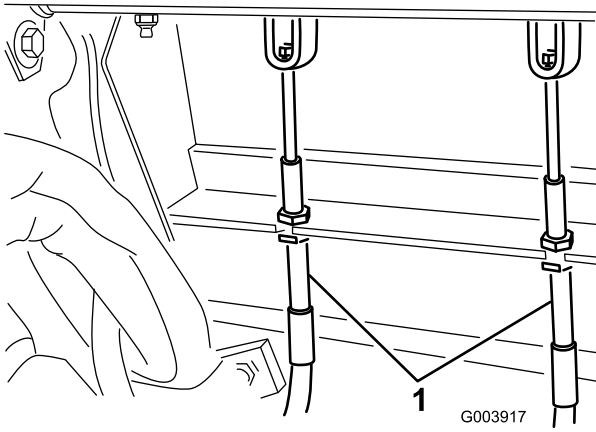

Figure 68
2. To reduce free travel of the brake pedals, tighten the brakes by loosening the front nut on the threaded end of the brake cable (Figure 68).